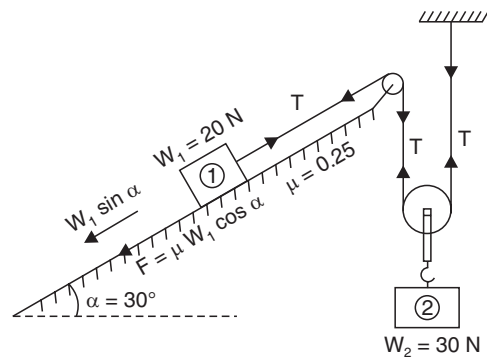

Fig. 8.18
**Example 8.25.** Determine the resulting motion of the body '1' assuming the pulleys to be smooth and weightless as shown in Fig. 8.18. If the system starts from rest, determine the velocity of the body '1' after 5 seconds.